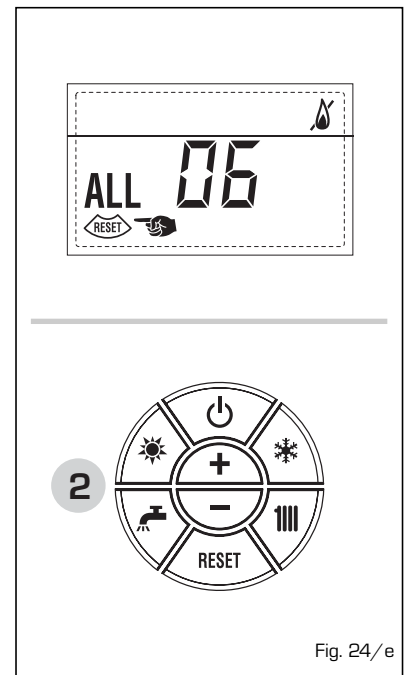

Fig. 24/e
**- SAFETY THERMOSTAT ANOMALY ALARM 07 (fig. 24/f)**